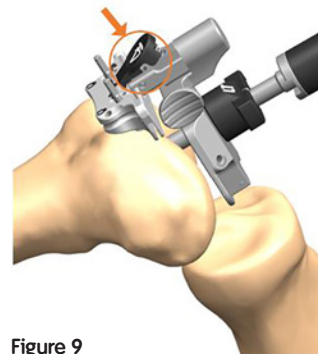

Figure 9
- Push the button on the Valgus Bridge (Figure 9) to remove the alignment assembly from the incision site. Only the Distal Cutting Block should remain on the femur.